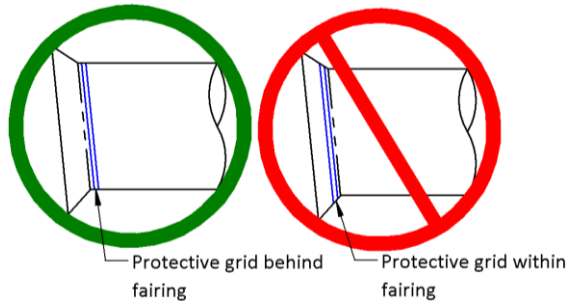

Figure 3 – Recommend location of protective grid
- Mount the grid behind the induction cone/radius (see Figure 3 below).